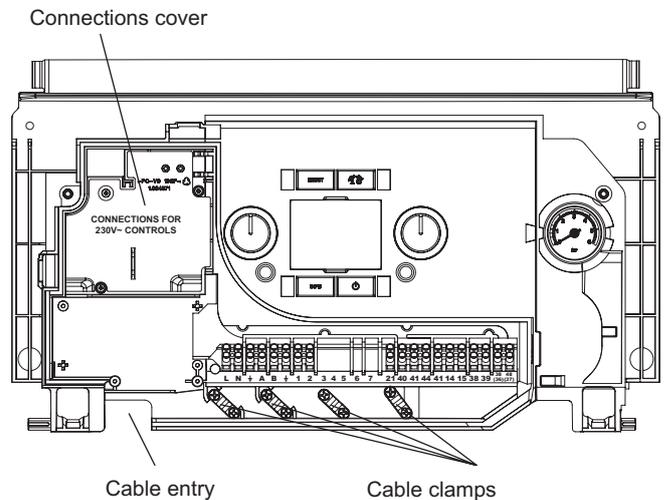

Fig. 4.15
**Note:** Do not remove the 230 V controls connection cover, see Fig. 4.15
1. Remove the screw securing the connections cover labelled 'connections for 230V controls' to expose the receiver/clock connections. See Fig. 4.15.